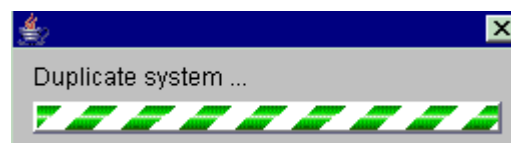

Figure 150 : Duplicate system bar graph
- ◆ A *Duplicate system* bar graph (Figure 150) indicates that the system is being duplicated; the name is copied with the extension *_copy* in the same project folder.